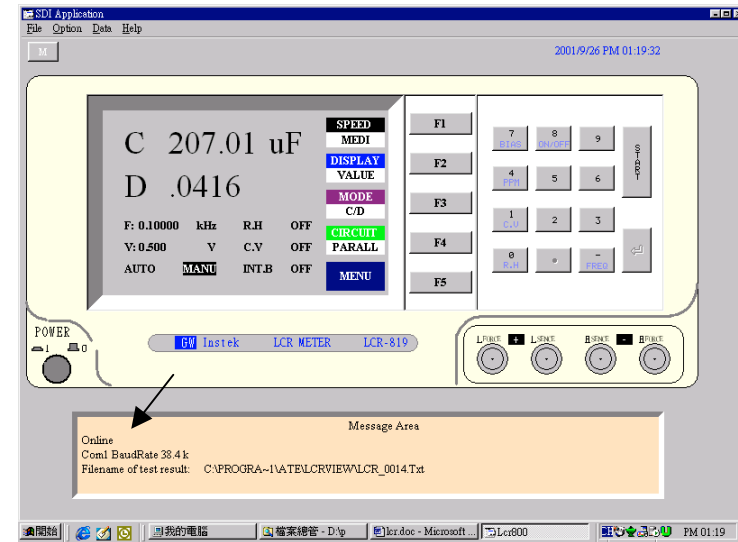

Figure 9-2
- 4) Check the contents of the Message area under the LCR-VIEWER to make sure the Online Procedure has been well done. If not, select the setting items above the LCR-VIEWER to change the Com port and make connection again until it is online. Please refer to Figure 9-2, 9-3, 9-4.